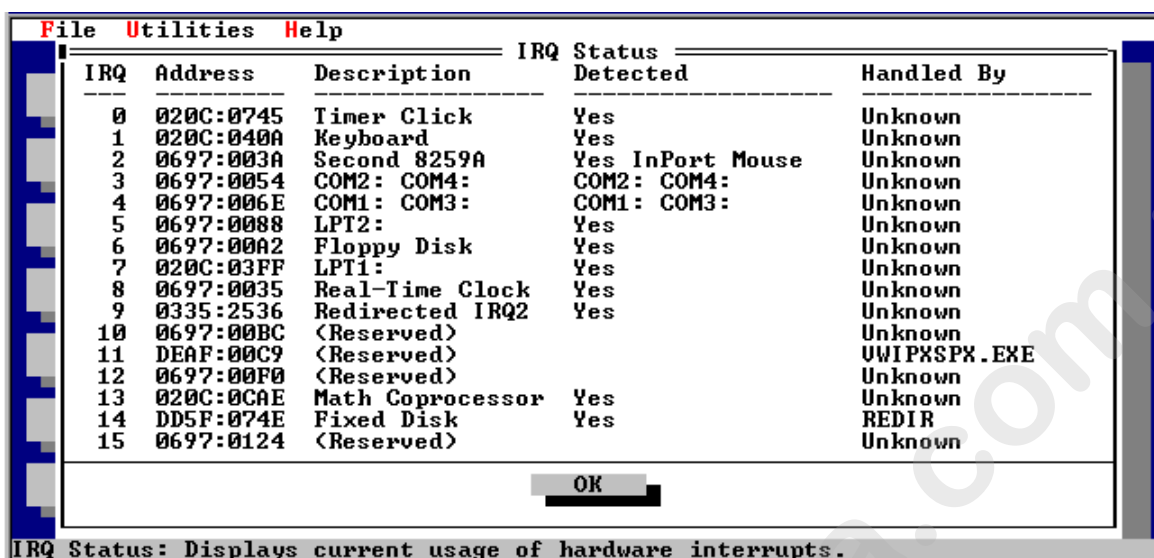

Figure A.4 IRQ Status Window
3. Type Q (IRQ Status...) to view a listing of hardware components, their address, and their IRQ. Refer to Figure A.4
4. Write down or print the settings listed in Figure A.4. Take note of the following IRQs and addresses: